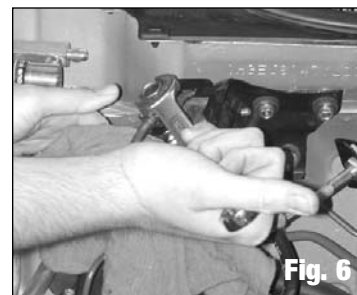

Fig. 6
1. Relieve fuel pressure first by loosening the banjo bolt connecting the fuel line to the fuel filter. Place a shop towel or rag over the wrench while loosening the banjo to soak up any fuel spray (**See Fig. 6**). When loosening or tightening the banjo bolt on the fuel filter can, use a 19mm wrench of the hex of the fuel filter can to counteract the torque of loosening or tightening the banjo bolt. This will prevent the fuel filter can and bracket from being improperly loaded during loosening or tightening at the banjo bolt.